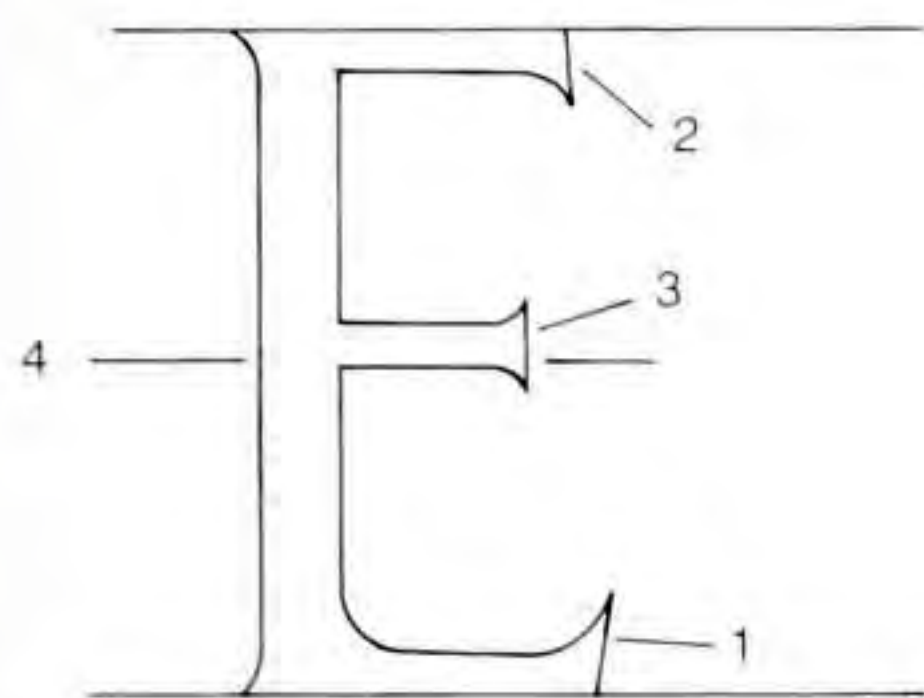

Fig 6.6 Features of the letter E.
See Fig 6.6. Stability is given to this letter by its different limb lengths. The lower arm is the longest (1). This should be merged with the serif, pointing the serif out to open the counter and prevent any sense of the letter being 'closed in'. The upper arm is the next shortest, by about one half unit (not including the serif) (2). The serif is either square or, preferably, pointing out to open the counter. If this is the case, point the serif out at a lesser angle than the lower serif. The same applies to F. The centre arm is shorter again by a half unit, but should not be made to look stubby (3). It is always at right angles to the main stem and its distinct serif ends vertically.